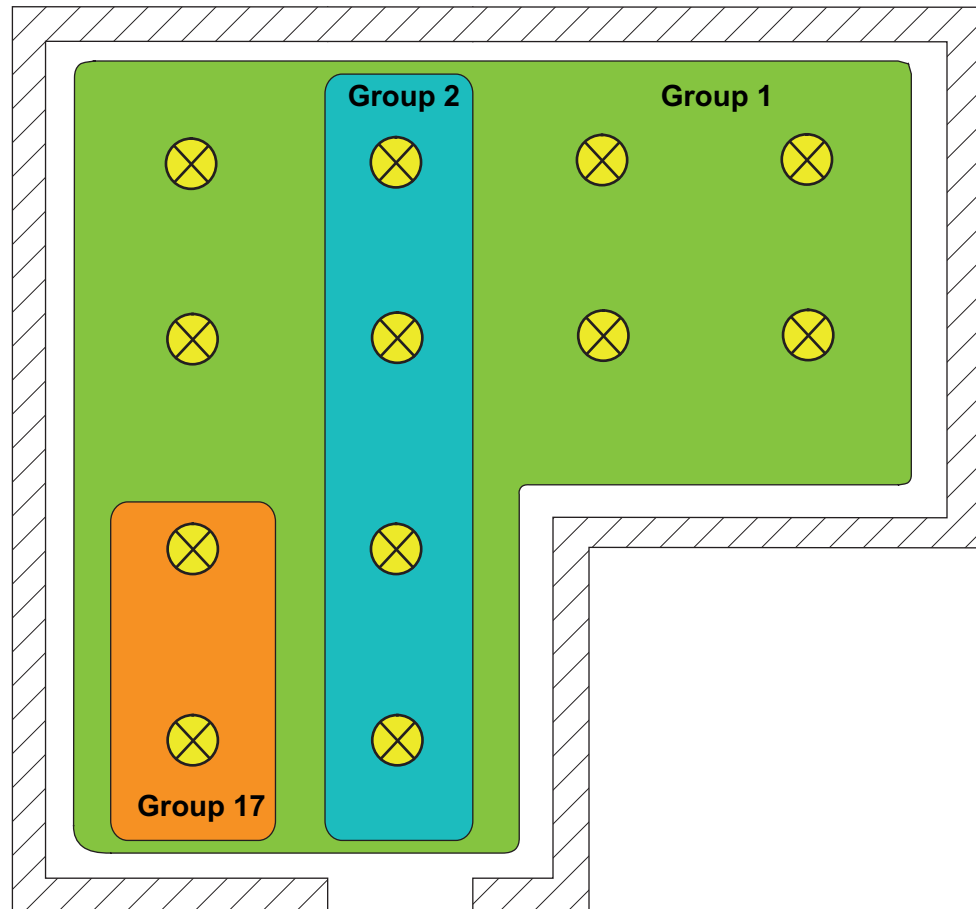

Figure 16: Example of multiple assignment of operating devices -
- i** DALI operating devices assigned to multiple groups always set themselves to the most recent status set using one of the assigned groups. In this case, feedback of the switching status or the brightness value of a group may not always be clear. The following examples explain this behaviour (Figure 16):